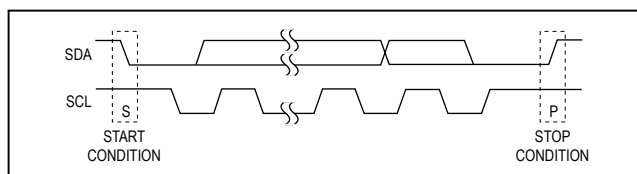

Figure 2. START and STOP Conditions
Each transmission consists of a START condition sent by a master, followed by the MAX7321's 7-bit slave address plus R/ $\bar{W}$ bit, 1 or more data bytes, and finally a STOP condition (Figure 2).
Both SCL and SDA remain high when the interface is not busy. A master signals the beginning of a transmission with a START (S) condition by transitioning SDA from high to low while SCL is high. When the master has finished communicating with the slave, the master issues a STOP (P) condition by transitioning SDA from low to high while SCL is high. The bus is then free for another transmission (Figure 2).